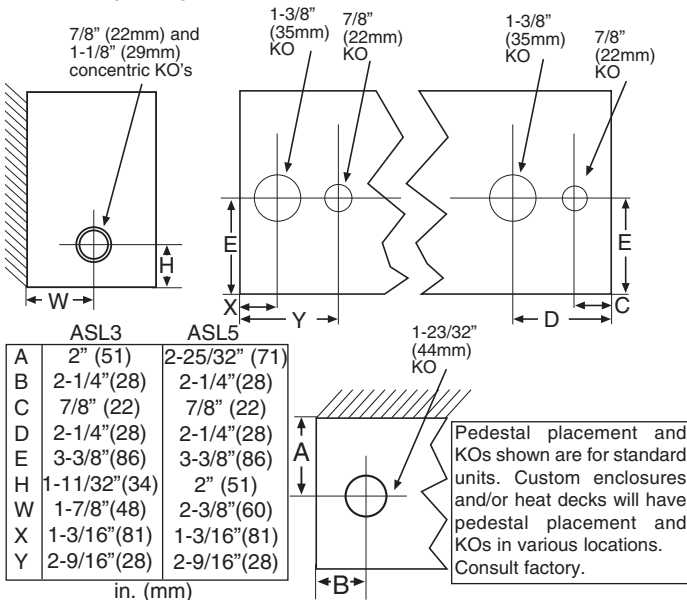

Fig. 2
1. Run branch circuit of proper voltage and wire size to location of left or right junction box as indicated on heater wiring diagram. Basic heaters are prewired and can be connected to branch circuit at either end. Heaters with controls are prewired for connection to branch circuit at one end only (refer to heater wiring diagram). However, heater can be wired from opposite end by running wires through heater wireway. See Fig. 2 for knockout locations.
- Remove appropriate electrical knockouts from either junction box. See Fig. 2 for location of knockouts. If heater is to be pedestal mounted, consult pedestal kit installation instructions.
- Refer to wiring diagram for power supply entry and remove appropriate electrical knockout (Fig. 2) from the heater in which power supply connections are to be made. The power supply may be brought into the end of one heater and the remaining heaters may be connected in parallel using the wireway. Use Table B to size the field installed wiring in the wireway or use Table C to determine the maximum length or heater run possible using the factory installed wire in the heater wireway. If units are to be pedestal mounted, consult pedestal kit installation instructions.